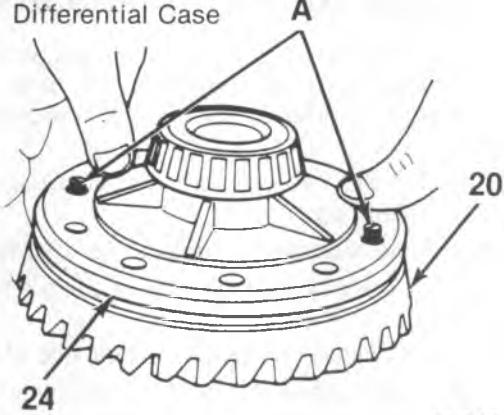

Figure 17—Ring Gear Studs
2. Side gear thrust washers (19) to the side gears (22).
3. Side gears (22) to the differential case (24).
4. Pinion gears (21) to the differential without the thrust washers (20).
5. Pinion thrust washers (20).
- 6. Ring gear (7) to the differential case (24).
- Thread two left-hand threaded studs into the ring gear on opposite sides (figure 17).